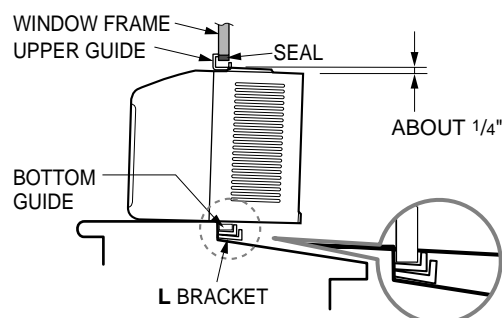

Figure 9
- While steadying the air conditioner, carefully bring the window sash down behind the upper guide of the air conditioner, as shown in Figure. 9.